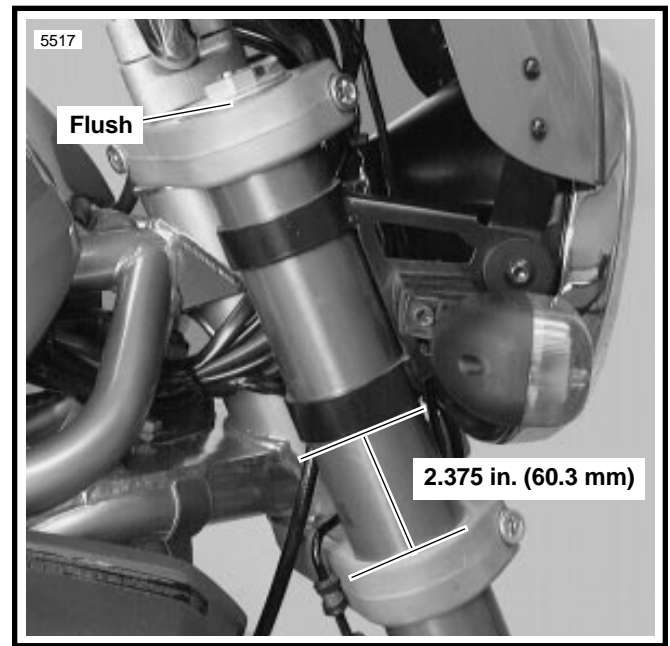

Figure 2-35. Aligning Front Forks
2. See Figure 2-35. Position fork tubes so that top of each fork cap fits flush with the top surface of upper triple clamp.